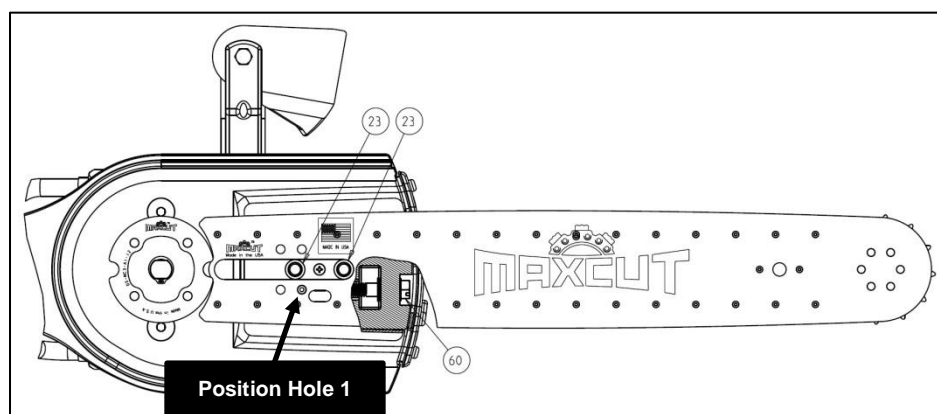

FIGURE 6
- 3.4.7. Refer to Figure 6 for the subsequent steps related to the installation of the Guide Bar.